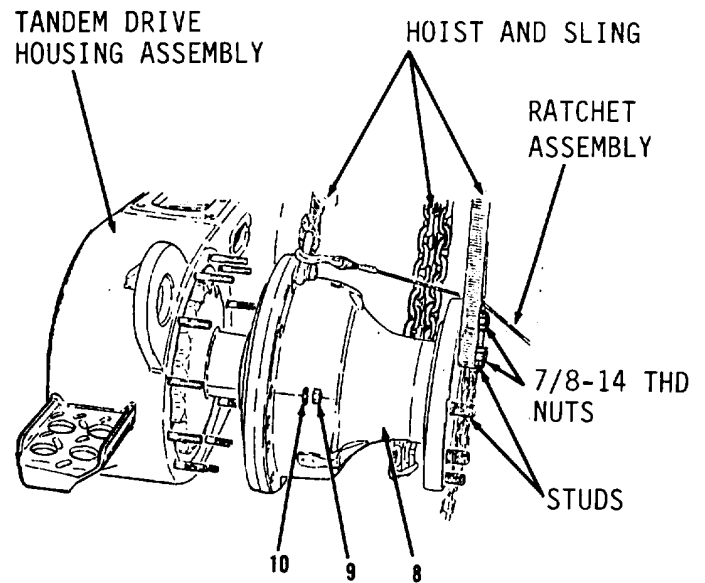

Figure 6-12.
4. Install hoist and sling and ratchet assembly on brake and wheel spindle housing assembly (8, Figure 6-12).
6. Remove ten nuts (9) and lock-washers (10).
7. Using ratchet assembly, remove brake and wheel spindle housing assembly (8) from tandem drive housing assembly.
8. Place brake and wheel spindle housing assembly (8) on wood blocks.